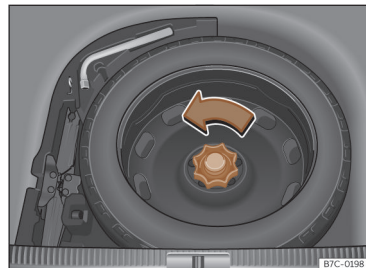

Fig. 233 In the luggage compartment: load floor raised.
- Turn the thumb wheel anti-clockwise »» **Fig. 233**.